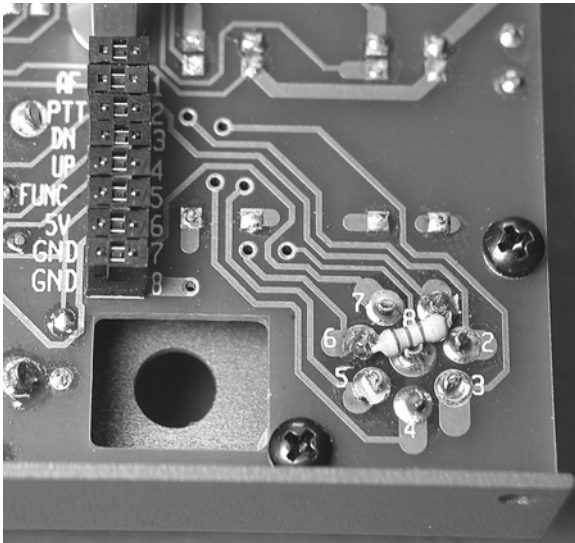

Figure 1. Jumper Blocks and Mic Bias Resistor (K2 ONLY!)
- Install the eight supplied jumper blocks on the Microphone Configuration Header (P1), located on the rear of the Front Panel board (see upper left area of Figure 1). Install each jumper so that it connects each adjacent pair of pins. Pin 1 to AF, Pin 2 to PTT, Pin 3 to DN etc. as shown.
- Install the supplied 5.6K resistor on the rear of the 8 pin microphone connector between pin 1 and pin 6 (see Figure 1). Solder each end of the resistor and trim the excess lead length.